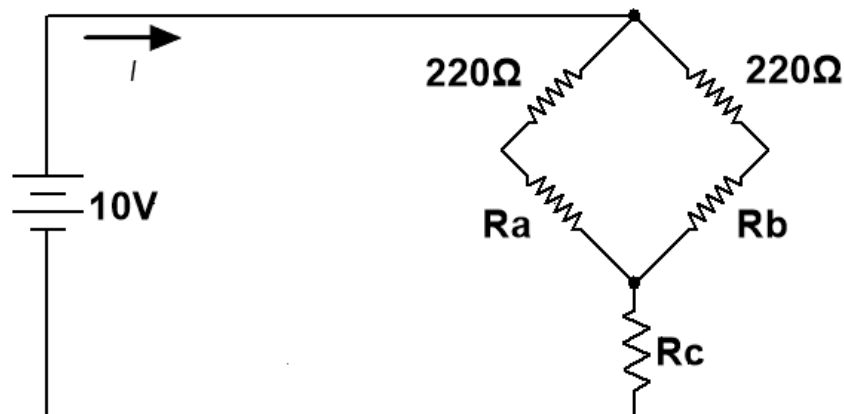

FIG 5.5
- (d) Calculate the equivalent Y for the Δ formed by the three $1K\Omega$ resistors, draw the equivalent circuit with the replaced by Y , insert the values of the resistors in the Y in Fig 5.5 and also indicate on diagram those available fixed resistors that have a resistance level closest to the calculated value.